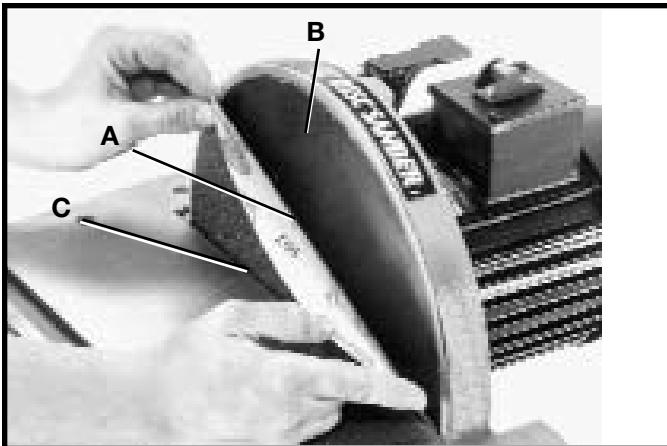

Fig. 21
1. To remove abrasive disc (A) Fig. 21, simply peel old abrasive disc from machine as shown.
2. To install a new abrasive disc, make sure the disc plate (B) Fig. 21, is clean, dry, and free from any oil or grease.
4. Slide new abrasive disc between the table (C) Fig. 21, and disc plate (B) and press the top portion of abrasive disc (A) in position.
5. Manually rotate disc plate (B) Fig. 21, one-half turn and firmly press onto abrasive disc plate (B).
6. **WARNING:** MAKE CERTAIN THE ABRASIVE DISC (A) FIG. 21, IS SECURELY IN POSITION BEFORE CONNECTING MACHINE TO A POWER SOURCE.